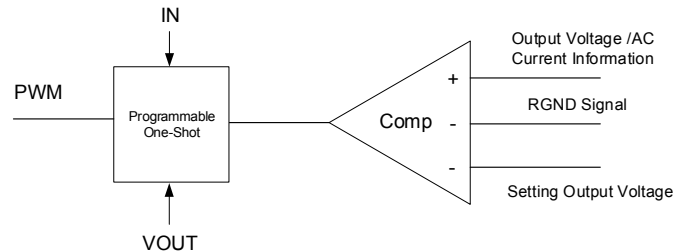

Figure 2. Simplified Control Schematic
The simplified control schematic is shown in Figure 2. The high-side switch on-time is determined solely by a one-shot whose pulse width is inversely proportional to input voltage (IN). The one-shot is triggered when the internal setting output voltage is higher than the combined information of output voltage and the AC current information of inductor and load line signal, which is processed and obtained through the sensed low-side MOSFET current once it turns-on. The added AC current information can help the stability of constant-on time control even with pure ceramic output capacitors, which have very low ESR. The AC current information has no DC offset, which does not cause offset with output load change, which is fundamentally different from other V^2 constant-on time control schemes.